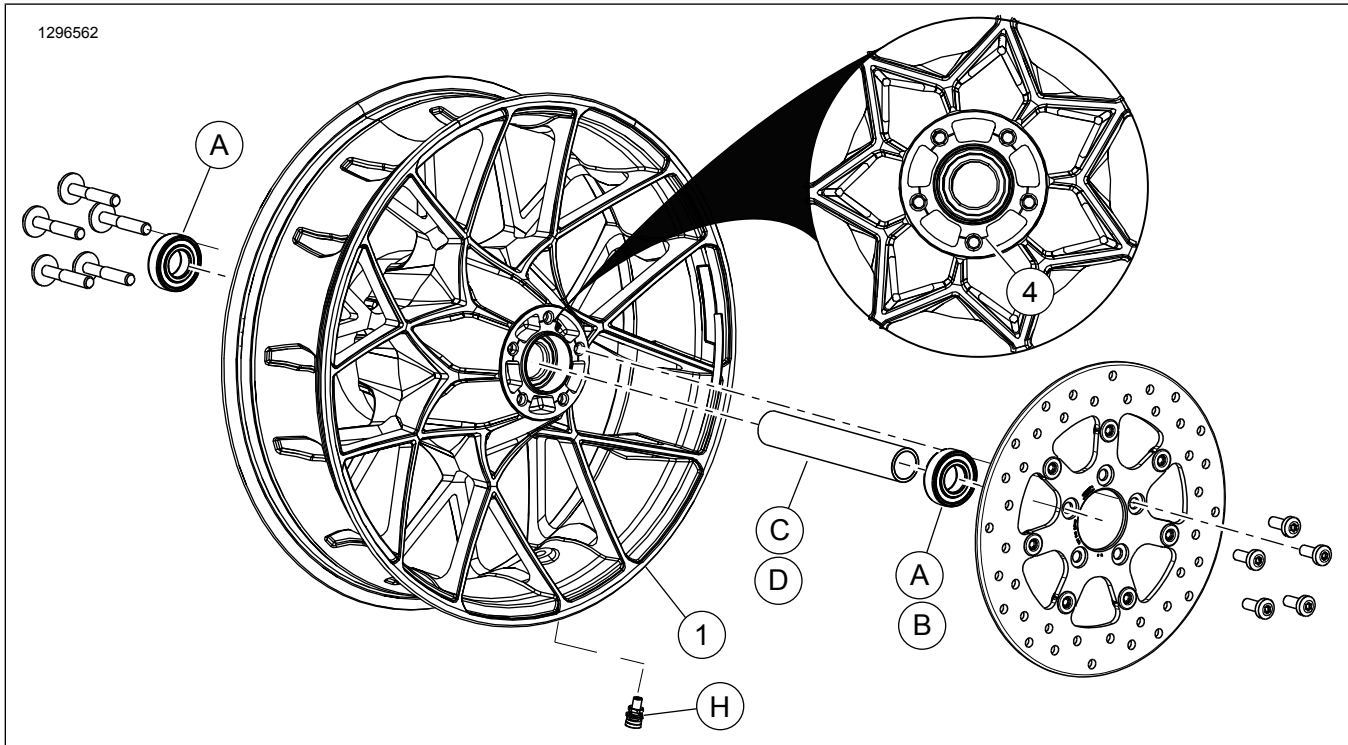

Figure 1. Service Parts: Rear Turbine Wheel
These kits include custom wheel only. See Figure 1 and Table 2.
2. See Figure 1. Install valve stem assembly (H) on wheel. See service manual.